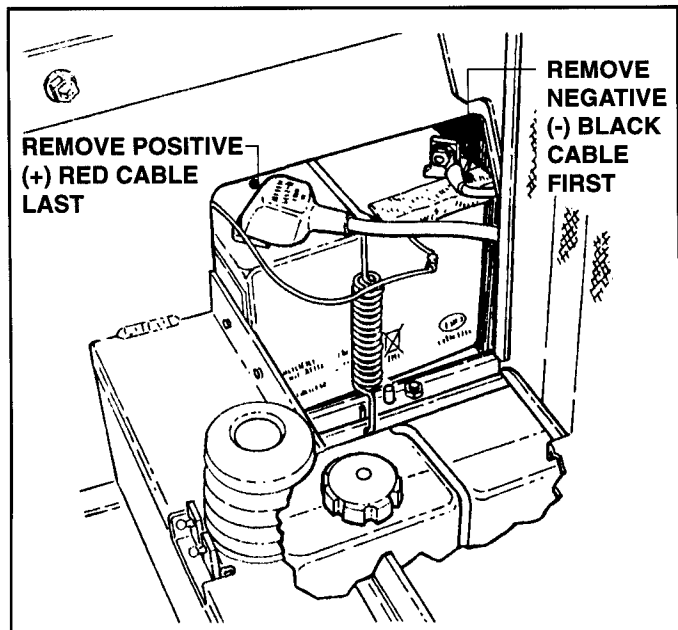

FIGURE 4.2
- A. Disconnect the Battery. Remove NEGATIVE (-) BLACK Cable first and POSITIVE (+) RED Cable last. Secure Cables away from the Battery. See Figure 4.2.